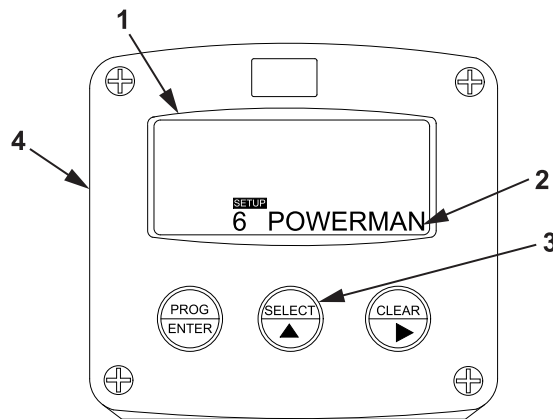

Figure 29. POWERMAN Display.
13. Verify that POWERMAN (Figure 29, Item 2) appears on the display screen (Figure 29, Item 1).
14. Verify default settings for function group POWERMAN (Figure 29, Item 2) as follows:
- a. Press the SELECT key (Figure 29, Item 3) on the tank volume meter monitor (Figure 29, Item 4).